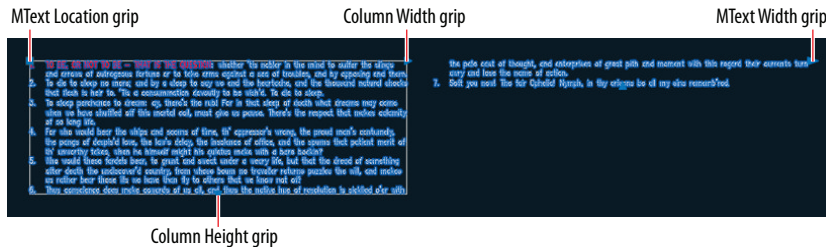

FIGURE 10.14 Moving the bottom grip up to create two columns
1. Click once on the numbered Hamlet text to select it and reveal its grips. Toggle off Object Snap. Click the Column Height (bottom) grip, move it upward, and click again, automatically creating two columns, as shown in Figure 10.14.